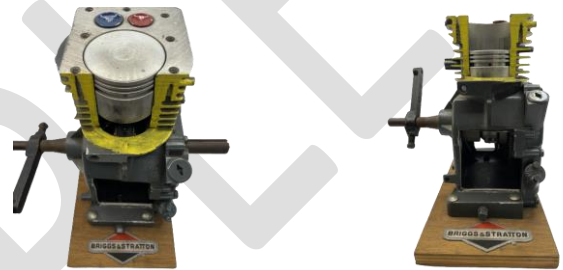

Figure 1. Cutaway Engine Example
4. Purchase or construct a cutaway engine, such as shown in Figure 1 (A cutaway engine basic engine component, with portions cutaway from the engine to increase student views). Students use the cutaway engine to inquire about the position and function of engine components during Part Three. Use the Cutaway Instruction Guide on the Power Portal for building a cutaway engine. Similarly, such engines can be purchased from EETC.